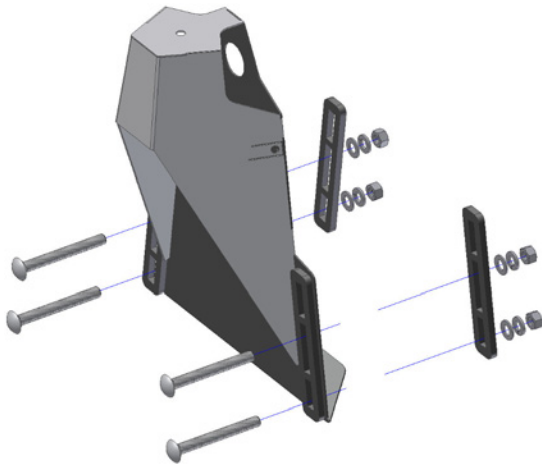

Figure 4: Low Profile Bracket Mounting
1. Mount the Low Profile Sensor Mounting Brackets (B20) onto the boom as show in **Figure 4** and **Figure 5** with the mounting base in front of the tube.